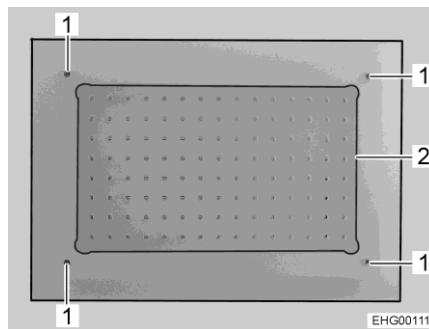

Fig. 293 Ceiling lamp
- Unscrew 4 screws (Fig. 293,1).
- Remove glass plate (Fig. 293,2) with firmly mounted LEDs.
- Position new glass plate including LEDs and screw in the 4 screws (Fig. 293,1).